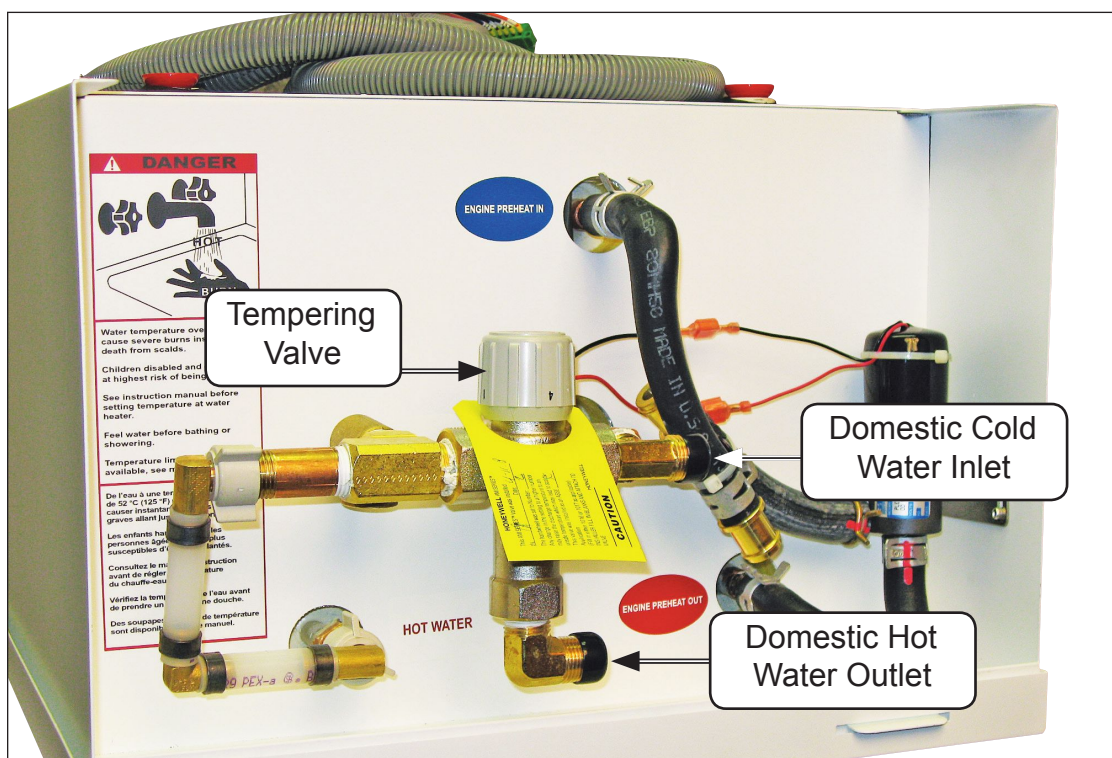

Figure 29
1. Connect a domestic water plumbing line from the domestic water demand pump/water manifold to the cold water inlet port on the Aqua-Hot. Reference Figures 29 and 30.
2. Connect a domestic water plumbing line from the Aqua-Hot’s hot water outlet port to the hot water system’s distribution lines/water manifold. Reference Figures 29 and 30.